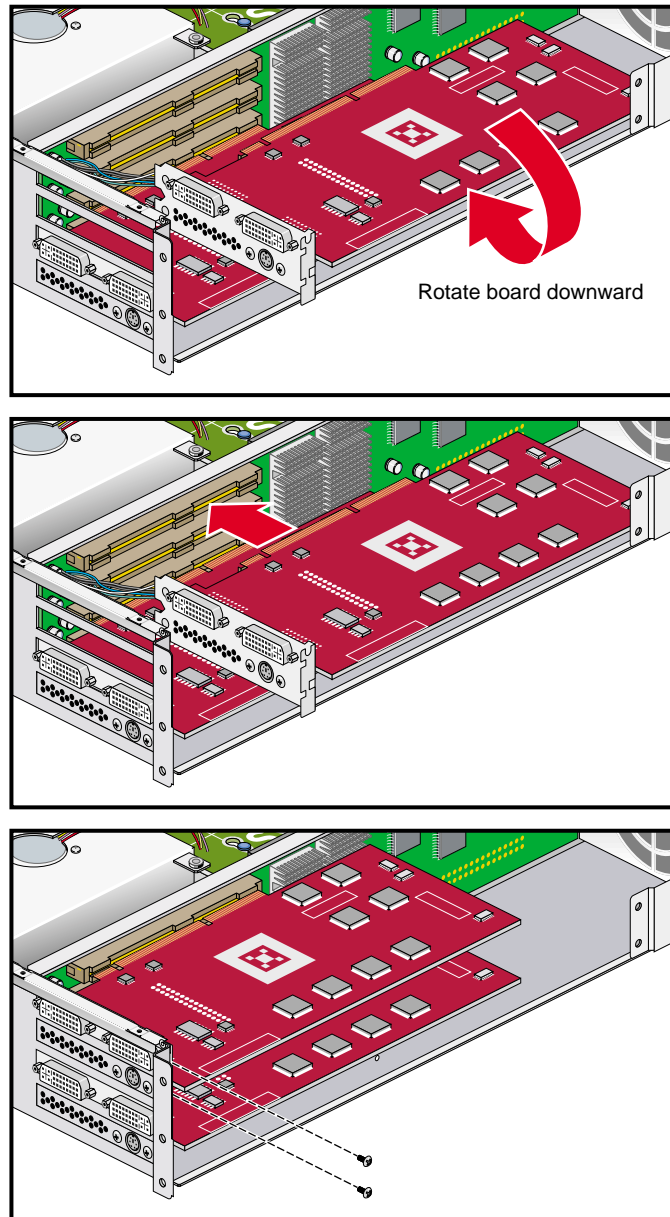

Figure 3-21 Installing the Graphics Card and Retaining Screws
3. Insert the card into the slot the old graphics card was removed from by pushing the card into the connector until it is properly seated and installing the backpanel retaining screws, as shown in Figure 3-21.